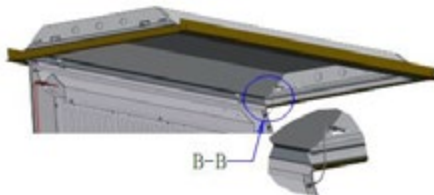

Fig.1.4
6. With the provided self tapping screws attach safety cable into the existing fixture.(Fig.1.4).